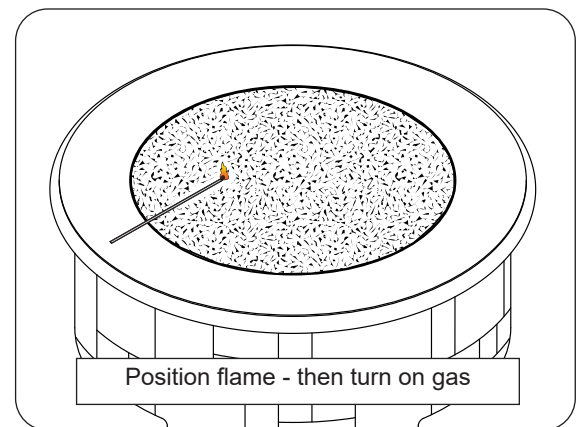

Fig. 43-1
3. Light a long-stem match or a long-necked butane lighter, and place the flame against the surface of the decorative media near the burner (Fig. 43-1).